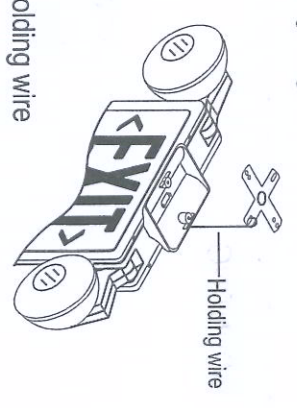

Fig. 2 Using holding wire
4. Feed AC supply leads through center hole and make proper connections. See "ELECTRICAL CONNECTIONS" below. Holding wire may be used for support during wiring. (See Fig.2)